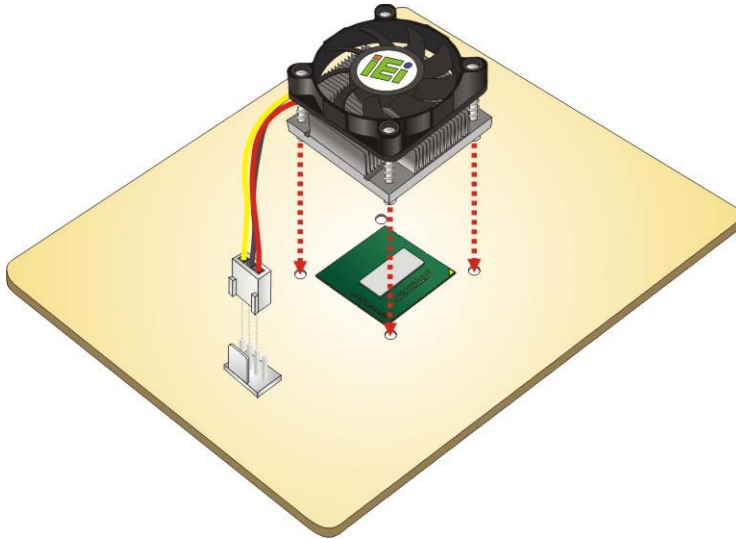

Figure 4-2: Align the Cooling Kit
Step 3: Properly align the cooling kit. Line up the four screws with the screw holes on the support bracket below the board (**Figure 4-2**).